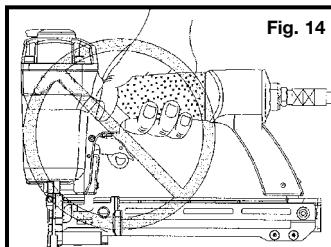

Fig. 14
- Remove finger from trigger** when not driving fasteners. Never carry tool with finger on trigger. In "Contact Actuation Mode" tool will fire a fastener if safety is bumped while trigger is depressed. (Fig. 14)